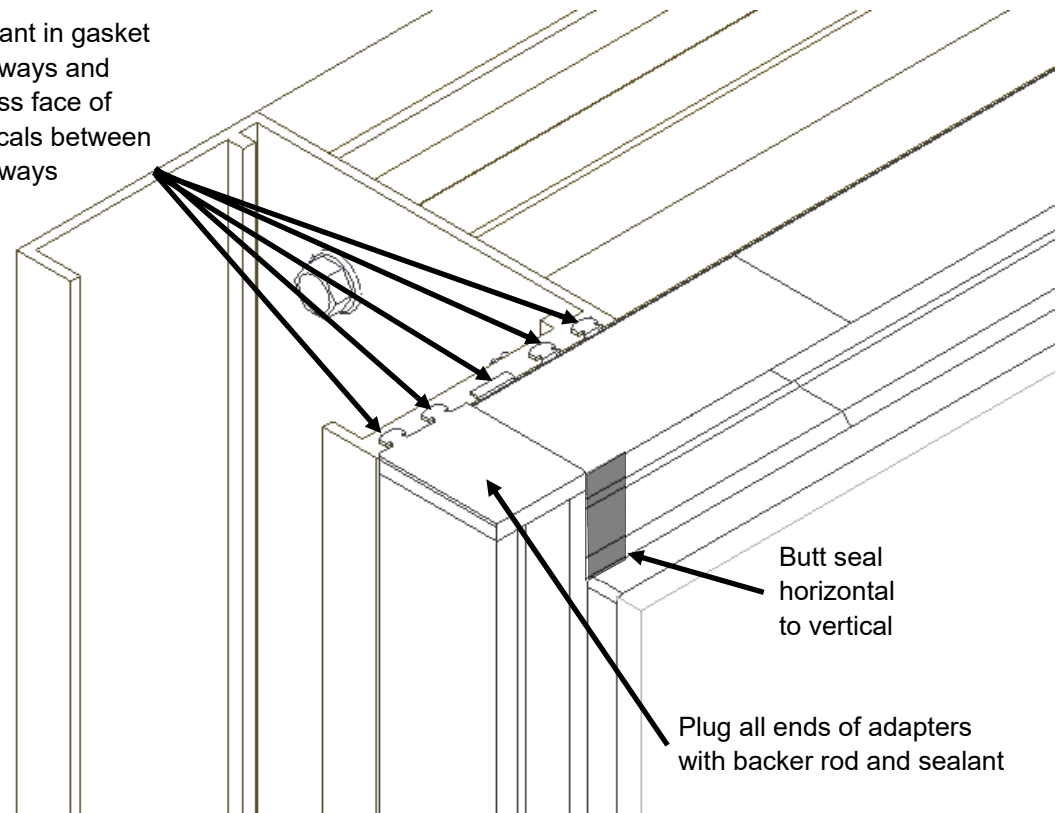

Figure 46
- Face seal anywhere that an adapter intersects a mullion (See Figure 46, and figure 42 on page 28).
6. At vertical and horizontal joints, butt seal and tool as required. (Figure 46)